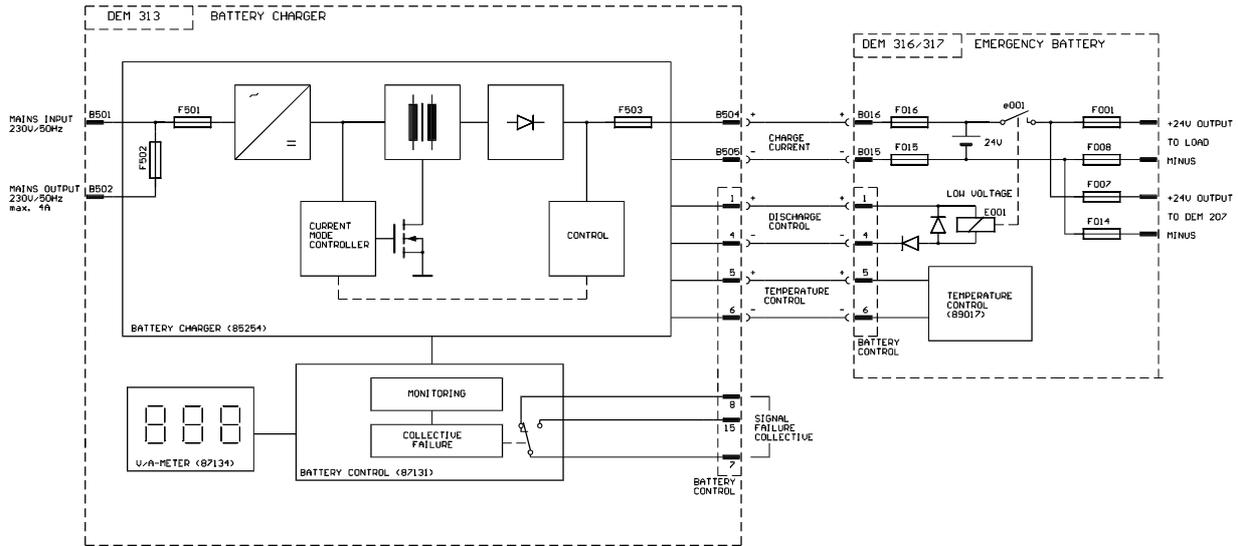
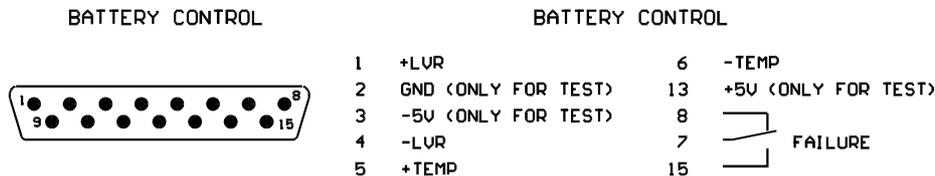

Fig. 1 Connection of the battery to the charging unit
Fig. 2 Connections of the BATTERY CONTROL pin connector
- The D-sub connector socket BATTERY CONTROL (9) of the charging unit is to be connected with the D-sub connector BATTERY CONTROL of the battery module (also see Figure 1 and Section 3.1).
- The CHARGE OUTPUT (8) of the charging unit is to be connected with the charging input CHARGE CURRENT of the battery module. Please observe correct polarity (see Figure 1). The cross-section of the line between the charging unit and the battery module must be at least 2.5mm^2 . Insulated AMP flat-pin sleeves 6.3x0.8 mm must be used for the connections. The line length must not exceed 2 m.
- Another device can be connected at the mains connector MAINS OUTPUT (5), if its power consumption does not exceed 4 A. The mains connector MAINS OUTPUT (5) is protected against overloading by a fuse (4) with the rating T4A. A fuse rating above T4A is not admissible.
- If all connections have been made correctly, the unit can be connected with the mains by means of the supplied power cable. The mains cable is connected at the 3-pole mains connector socket (7) on the unit
Various control input/outputs are available at the 15-pole D-sub pin connector BATTERY CONTROL (9): (Also see Figure 2):
For temperature tracking of the charging voltage in standby mode, the temperature sensor (retrofitting kit NRS 90200) must be installed according to the retrofitting instructions and is to be connected with the charging unit (see also Figures 1, 2 and Sections 3.1, 6.9).
In order to prevent exhaustive discharging of the battery, suitable relays must be used which are to be connected with the charging unit according to Figure 1 or Figure 2. The total coil resistance of the relays may not be below 70 ohms.
The collective failure signal is designed as a floating contact, making available malfunctions of the battery such as: disconnection at LOW VOLTAGE, wrong polarity or battery short-circuit, as well as malfunctions of the charging unit such as: absence of LINE VOLTAGE, OVERVOLTAGE or failures in the charging circuit CHARGE CURRENT for long-range transmission. The corresponding failure is indicated on the unit itself via the corresponding LED (3) lighting up or going off respectively, (see page 2 as well as Section 6.1 to 6.6). The floating contact of the collective failure indication is wired at the D-sub pin connector BATTERY CONTROL (9) (see Figure 2).